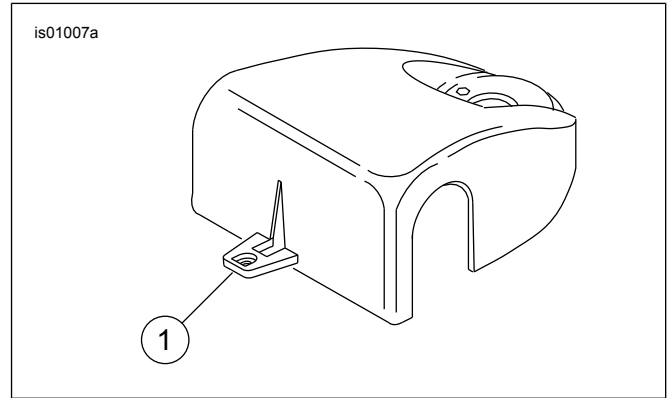

Figure 1. Locating Mounting Holes
5. See Figure 1 and use the template (Part Number 94521-05) to locate mounting holes in the handlebar cover. Note that on 2003 and later FLHR models the drilling location is 0.25 in. lower than on earlier models.
6. Tape the template (Part Number 94521-05) to handlebar cover. Template should be on front tab (1), centered and square.